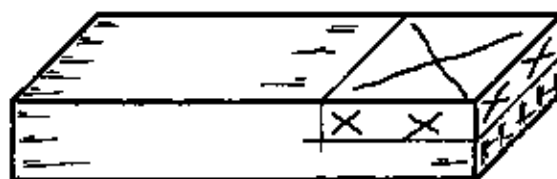

Fig. 2
- Make lines square at the shoulder of the pin, drawing them across the side and halfway down the edges, with a try square and pencil (Fig. 2). Mark the waste.
– Gauge the thickness of the pin around its edges and mark the waste (Fig. 2, previous page).